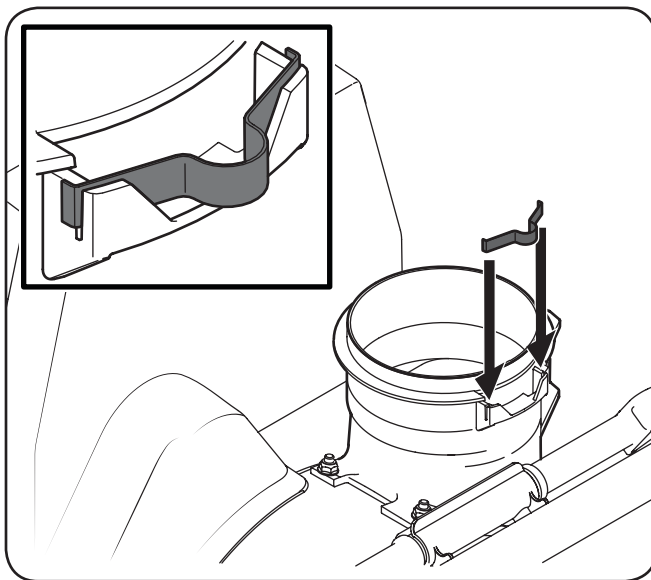

Figure 3-1
1. Install the wire spring into the discharge opening of the snow thrower by inserting both ends into the slots provided. See Figure 3-1 for proper location and orientation of the spring. The inset of Figure 3-1 shows the spring properly installed with the ends fitted into the slots provided.